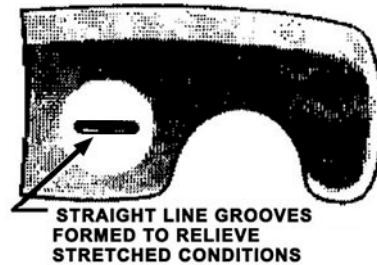

Figure 1-34. Shrinking grooves on body panel.
3. If another groove is necessary, form it at a right angle to the first groove (fig. 1-34).